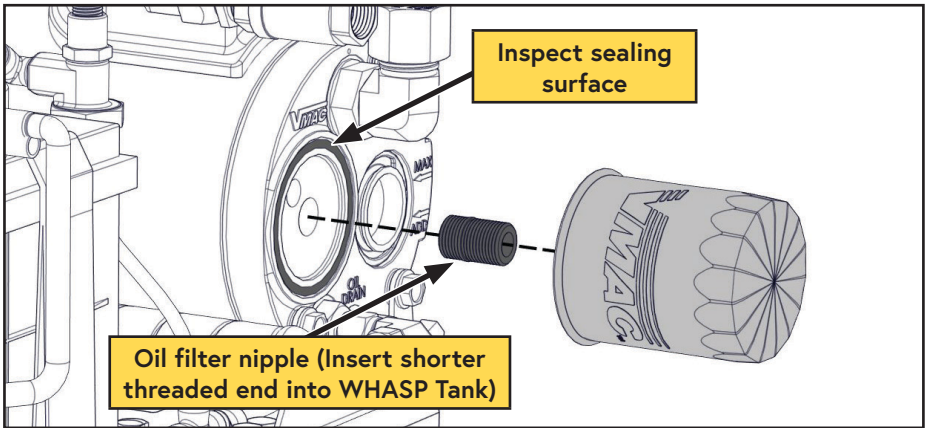

Figure 38 — Compressor oil filter
- *To reinstall the nipple, thoroughly clean the threads and apply Loctite 242 (blue) to the end with the short threads and replace it in the AOST (Figure 38).
- Clean the gasket sealing surface on the front of the tank and inspect it for damage. The surface must be free of old gasket material and smooth to ensure a good seal (Figure 38).